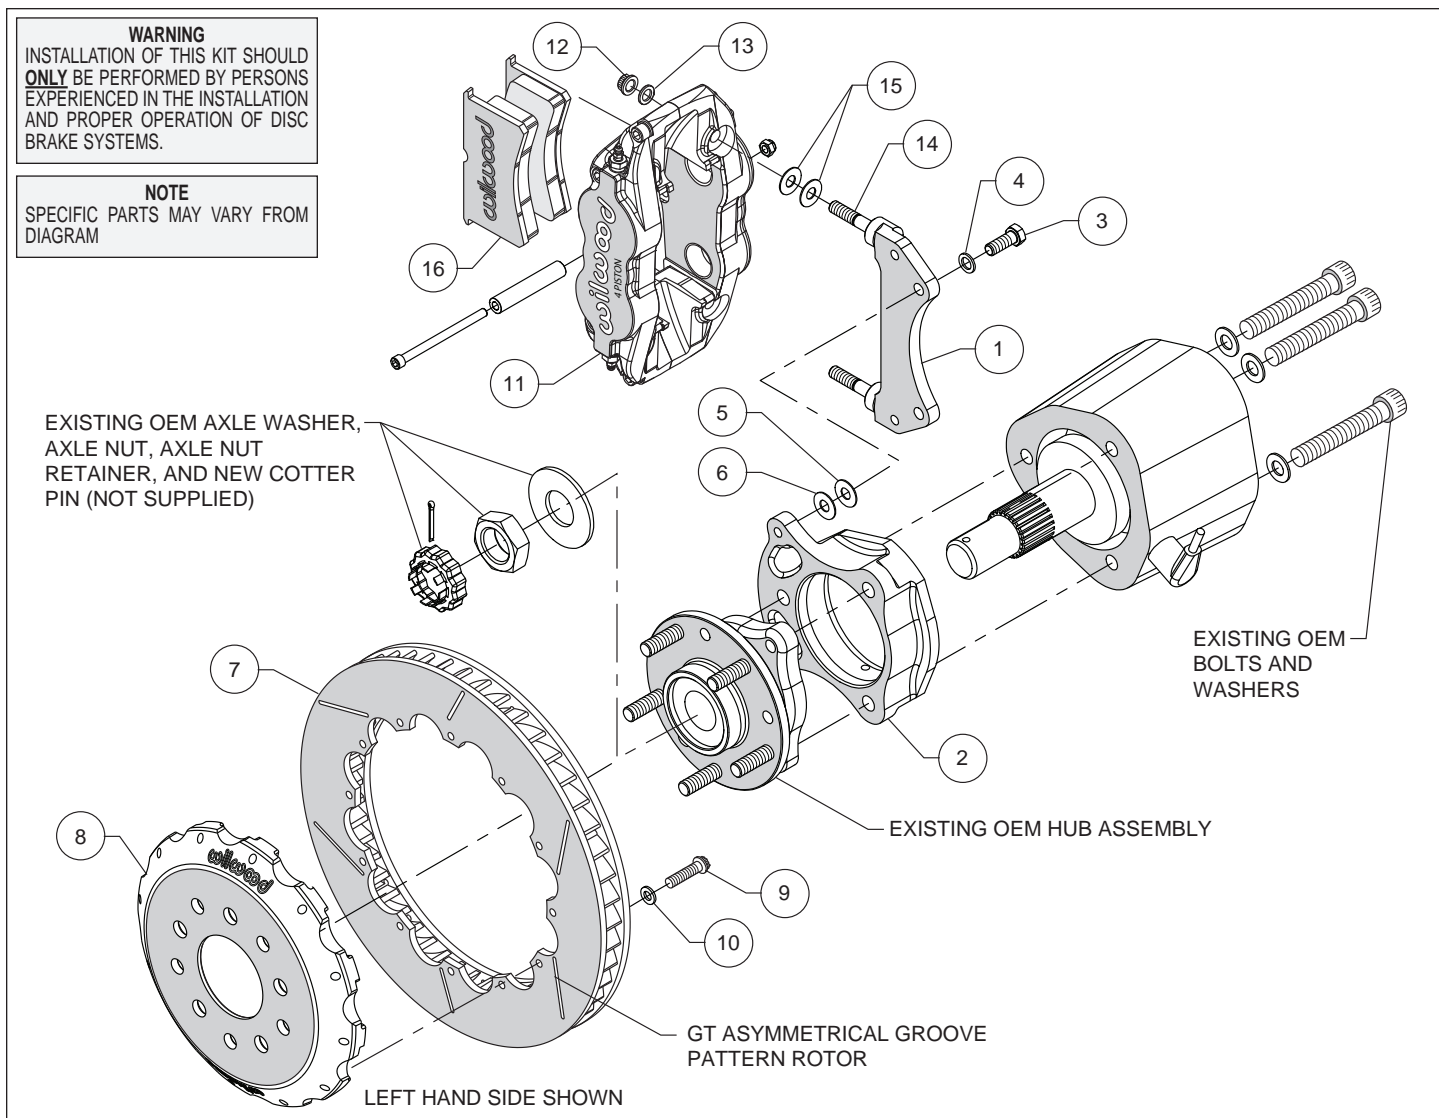
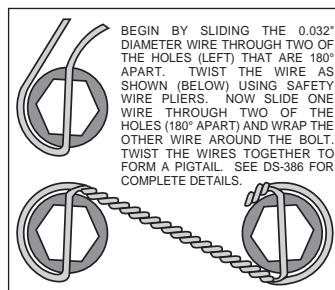

Figure 1. Typical Installation Configuration
Figure 3. Safety Wire Diagram
Assembly Instructions (numbers in parenthesis refer to the parts list and Figure 1 on the preceding pages):
- The caliper mount bracket (1) should initially be installed with clean, dry threads on the mounting bolts. Orient the bracket as show in Figure 1, and install onto the axle hub bracket (2) using bolts (3) and washers (4), Photo 1. Initially place one .035" thick shim (5) on each bolt between the caliper bracket and the hub bracket, Figure 1. Later, after the caliper alignment has been checked, the mount bolts will be secured using red *Loctite*® 271.
- Orient the caliper bracket assembly (1 and 2) as shown in Figure 1 and Photo 2. **NOTE:** *The bracket assembly must fit squarely against the face of the upright.* Inspect for interference from casting irregularities, machining ridges, burrs, etc.
- Orient the rotor (7) and the hat (8) as shown in Figure 1 and Photo 4. Attach rotor to hat using bolts (9) and washers (10). Using an alternating sequence, apply red *Loctite*® 271 to the threads, and torque to 155 **in-lbs**. Safety wire bolts using standard 0.032 inch diameter stainless steel safety wire as shown in Figure 3. Please refer to Wilwood's data sheet DS-386 (available at www.wilwood.com/Pdf/DataSheets/ds386.pdf) for complete safety wire installation instructions.
- Lubricate the caliper mounting studs (14) with lightweight oil. Initially place two .035" thick shims (15) on each stud as shown in Figure 1 and Photo 5. Mount the caliper (11) onto the bracket (1) using lock nuts (12) and washers (13), Figure 1. Temporarily tighten the lock nuts and view the rotor through the top opening of the caliper. The rotor should be centered in the caliper, Photo 6. If not, adjust by adding or subtracting shims (5 and/or 6) between the radial bracket (1) and the axle hub bracket (2). Always use the same amount of shims on each of the two mounting bolts. Once the caliper alignment is correct, remove the bracket mounting bolts (3) one at a time, apply red *Loctite*® 271 to the threads, and torque bolts to 35 ft-lb.